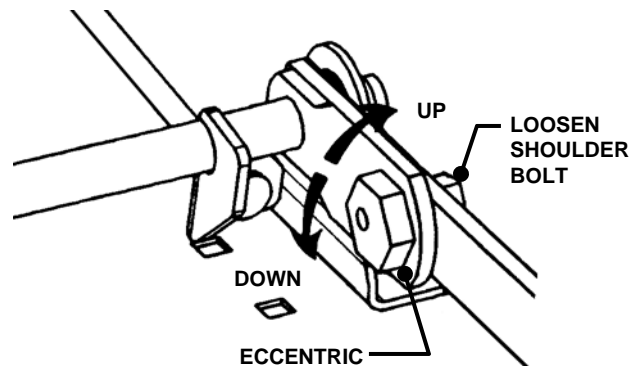

FIGURE 4.9
7. Turn eccentric "UP" or "DOWN" as required until blade tips are within $1/8$ " of the same distance from the floor. See Figure 4.9.